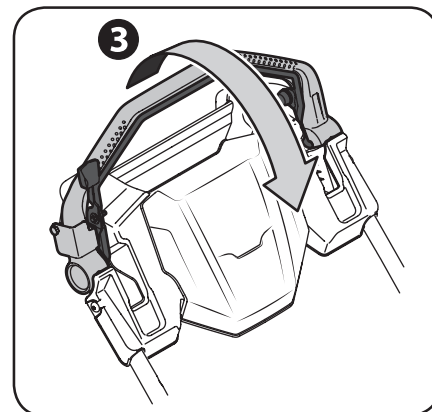

Figure 3-5
3. While continuing to hold the blade and drive controls together, push the drive control forward to propel mower. See Figure 3-5. The farther the control is pushed forward, the faster the mower will propel.